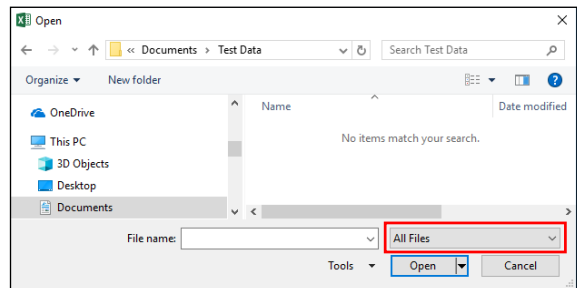

Figure 7: Excel File Explorer
1. Open spreadsheet application. Select **File > Open > Browse** to locate the test file(s). In the bottom right corner of the file explorer (Figure 7) select **All Files** from the dropdown menu.